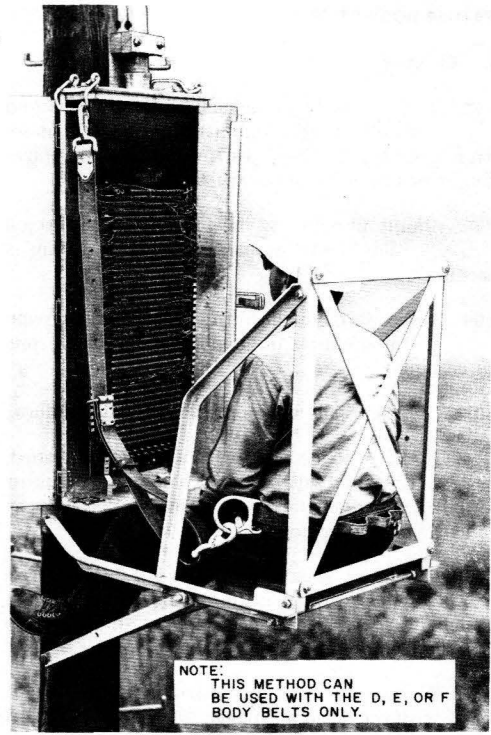

Fig. 11—Method of Using D, E, or F Body Belt With Safety Strap on B-Type Cross-Connecting Terminal
5.08 Employees shall secure themselves to the handle of pole-mounted terminals, such as B, 101, and 29-type cabinets, prior to stepping from the pole to a pole seat or terminal balcony. Likewise, when stepping from a pole seat or terminal balcony to the pole, the safety strap shall not be removed from the handle until the employee has stepped onto the pole. Figure 11 shows the safety strap secured to one Dee ring, which is possible when using a D, E, or F Body Belt. All other belts must have the snap hook of the safety strap secured to a Dee ring, across the front of the body and through the other Dee ring, and then secured to the terminal handle.